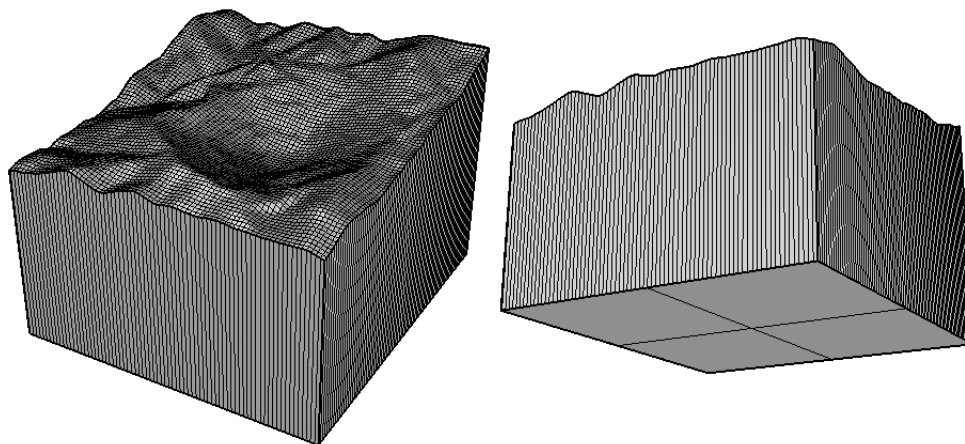

Figure 156: Capping the bottom of the model.
3. The vertical walls are now cut horizontally at $z = -500$ m. Select the **top** (topography) surface and the vertical **walls**, then **Edit|Join** to create a **single Polysurface** open at the bottom. Select the **Polysurface**, then **Solid|Cap Planar Holes** to create a closed Polysurface also called a **Solid** (Figure 156).